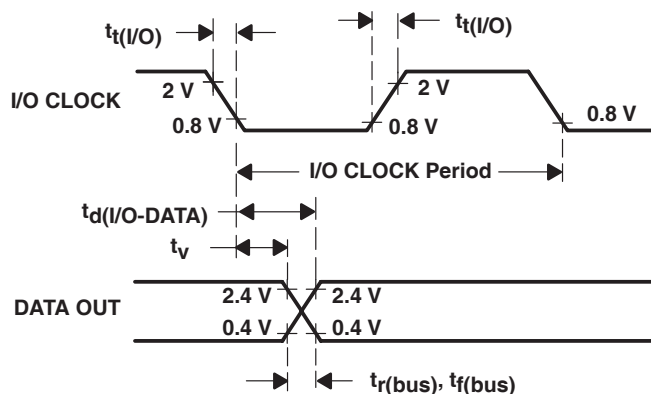

Figure 5. I/O CLOCK and DATA OUT Voltage Waveforms
9. I/O CLOCK period = $1/(\text{I/O CLOCK frequency})$. Sampling begins on the falling edge of the third I/O CLOCK, continues for seven I/O CLOCK periods, and ends on the falling edge of the tenth I/O CLOCK (see Figure 5).